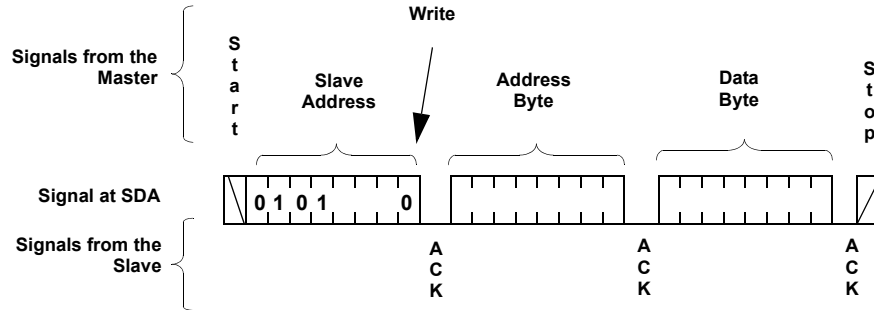
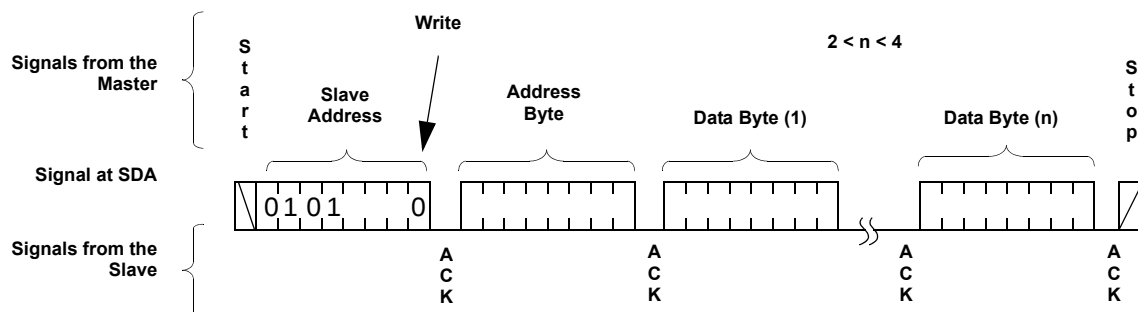

FIGURE 7. BYTE WRITE SEQUENCE
FIGURE 9. PAGE WRITE OPERATION
2. **Access the desired DR or WCR using a new write or read command** (see Figure 7 for write and Figure 9 for read.)
For any Byte Write operation, the X9455 requires the Slave Address byte, an Address Byte, and a Data Byte (See Figure 7). After each of them, the X9455 responds with an ACK. The master then terminates the transfer by generating a STOP condition. At this time, if the write operation is to a volatile register (WCR, or SR), the X9455 is ready for the next read or write operation. If the write operation is to a nonvolatile register (DR), and the $\overline{WP}$ pin is high, the X9455 begins the internal write cycle to the nonvolatile memory. During the internal nonvolatile write cycle, the X9455 does not respond to any requests from the master. The SDA output is at high impedance.
As stated previously, the memory is organized as a single Status Register (SR), and four pages of four registers each. Each page contains one Data Register for each wiper. Normally a page write operation will be used to efficiently update all four Data Registers and WCR in a single Write command. Note the special sequence for writing to a page: First wiper 0A, then 1B, then 1A, then 0B as shown in Figure 9.
transmit up to 4 bytes (See Figure 9). After the receipt of each byte, the X9455 responds with an ACK, and the internal WCR address is incremented by one. The page address remains constant. When the address reaches the end of the page, it "rolls over" and goes back to the first byte of the same page.